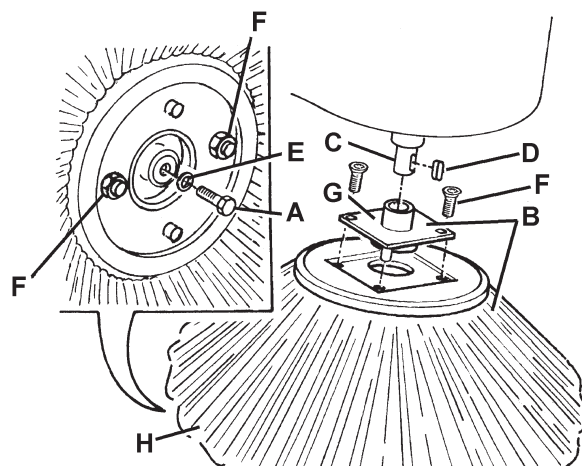

Figure 11
1. Drive the machine on a level floor and engage the parking brake with the pedal (75) and the lever (68).
2. Turn the ignition key (67) to "0".
3. Lift the side broom which has to be removed, with the lever (70) or (71).
4. Remove the screw (A, Fig. 11) inside the side broom, then remove the side broom (B) with the hub (B) by disengaging it from the shaft (C).
5. At the workbench, remove the two screws (F, Fig. 11) and separate the broom (H) from the hub (G).
6. Install the new side broom (H, Fig. 11) onto the hub (G), and tighten the screws (F).
7. Install the key (D), then install the new side broom with the hub (B, Fig. 11). Install the washer (E) and tighten the screw (A).